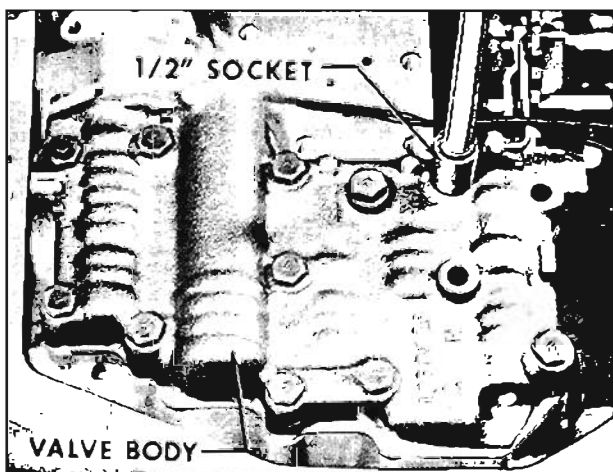

Fig. 6-267 Removing Valve Body
8. Remove 11 valve body to case bolts only using a 1/2" socket. Do not remove valve body. (Fig. 6-267)